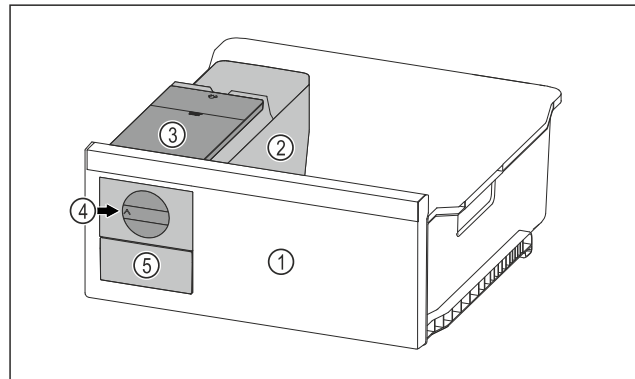

Fig. 163 Example illustration
- ▶ Turn the rotary knob Fig. 163 (4) clockwise as far as it will go.
- ▶ Ice cubes fall from the ice cube tray into the ice cube drawer Fig. 163 (5).